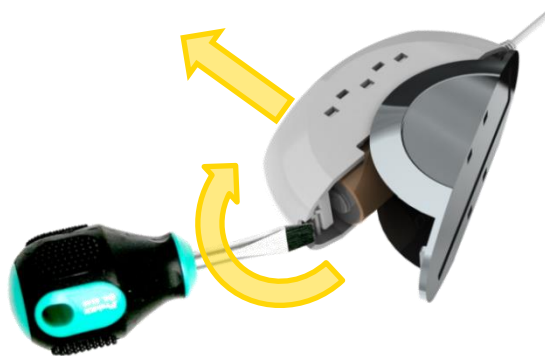

Figure 120: Dismounting the Flood Detector Transmitter Unit
1. Insert a coin (or flat screw driver) into one of the edge slots as demonstrated in Figure 120 below.